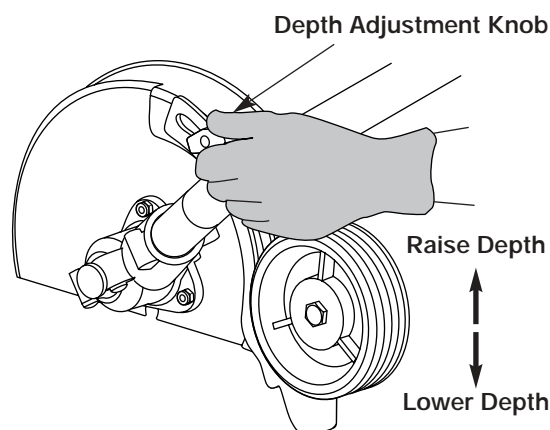

Fig. 16
1. Loosen the adjustment knob above the wheel (Fig 16).